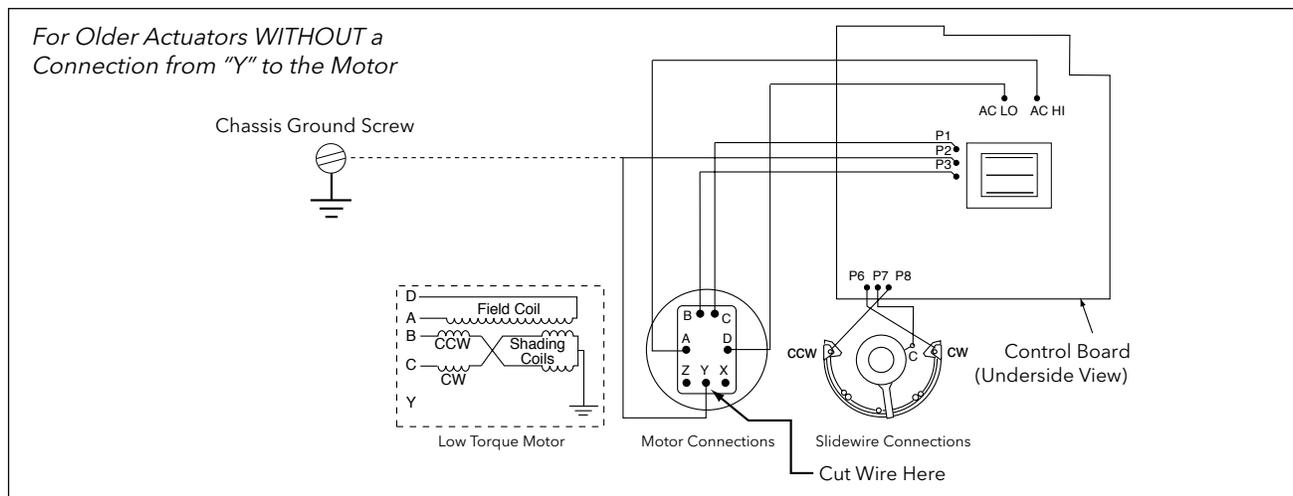

Figure 8. Motor and slidewire for older actuators
4. Some actuators manufactured prior to 1992 do not have an internal wire from terminal "Y" on the round connector to the motor. To test for this condition, connect an ohmmeter between "Y" and "B" and check for continuity. Most actuators will indicate about 22 ohms. If the ohmmeter indicates infinity (meaning the internal wire is not present), cut the lead from terminal "Y" on the new wire harness and crimp the supplied terminal lug to the wire. Connect the lug to the chassis at the chassis ground screw (refer to Figure 8).